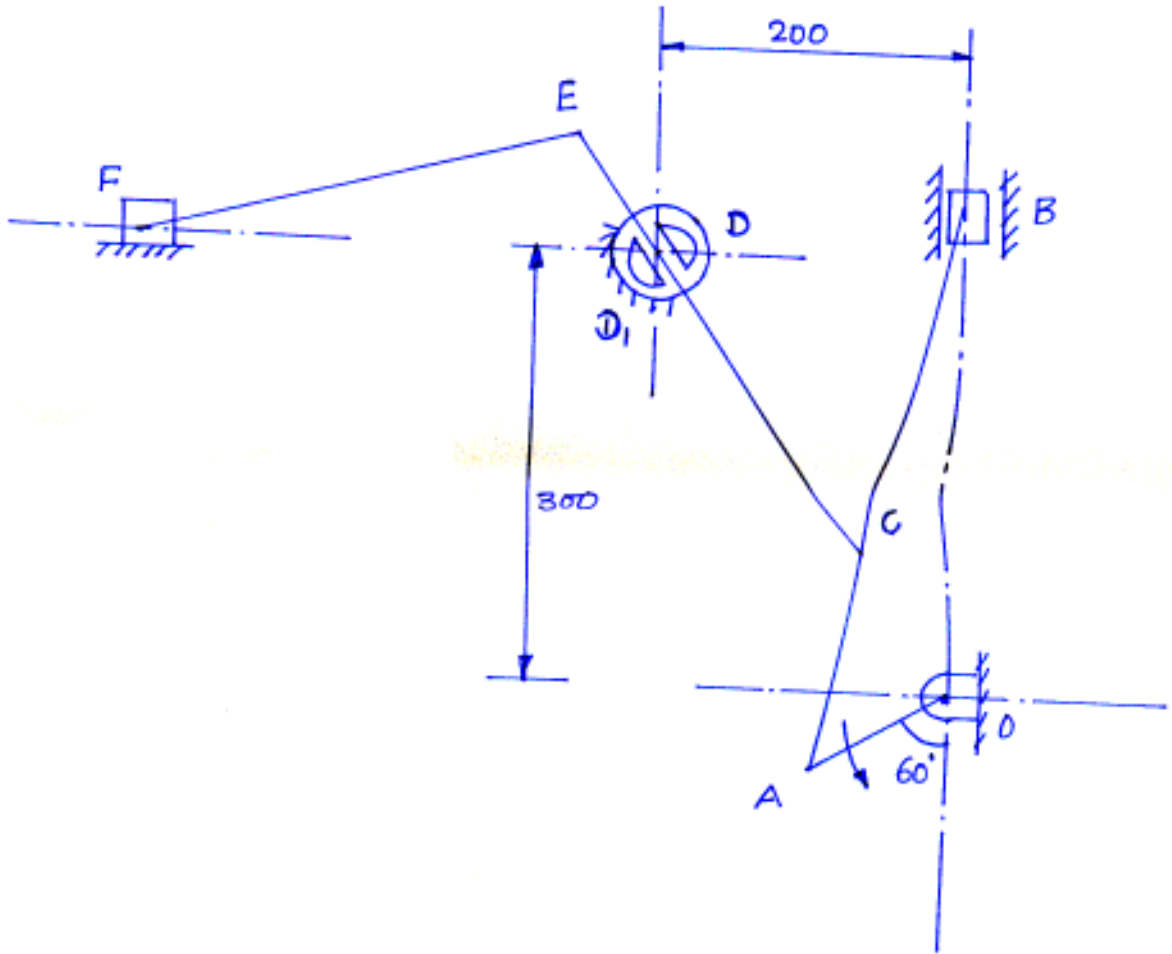

Fig. 3
5. In the mechanism shown in fig. 3, crank OA rotates uniformly at 15 rad/sec counter clockwise. Find acceleration of slider F. Dimensions are OA = 100 mm, AB = 400 mm, AC = 150 mm, CE = 350 mm, EF = 300 mm. 18